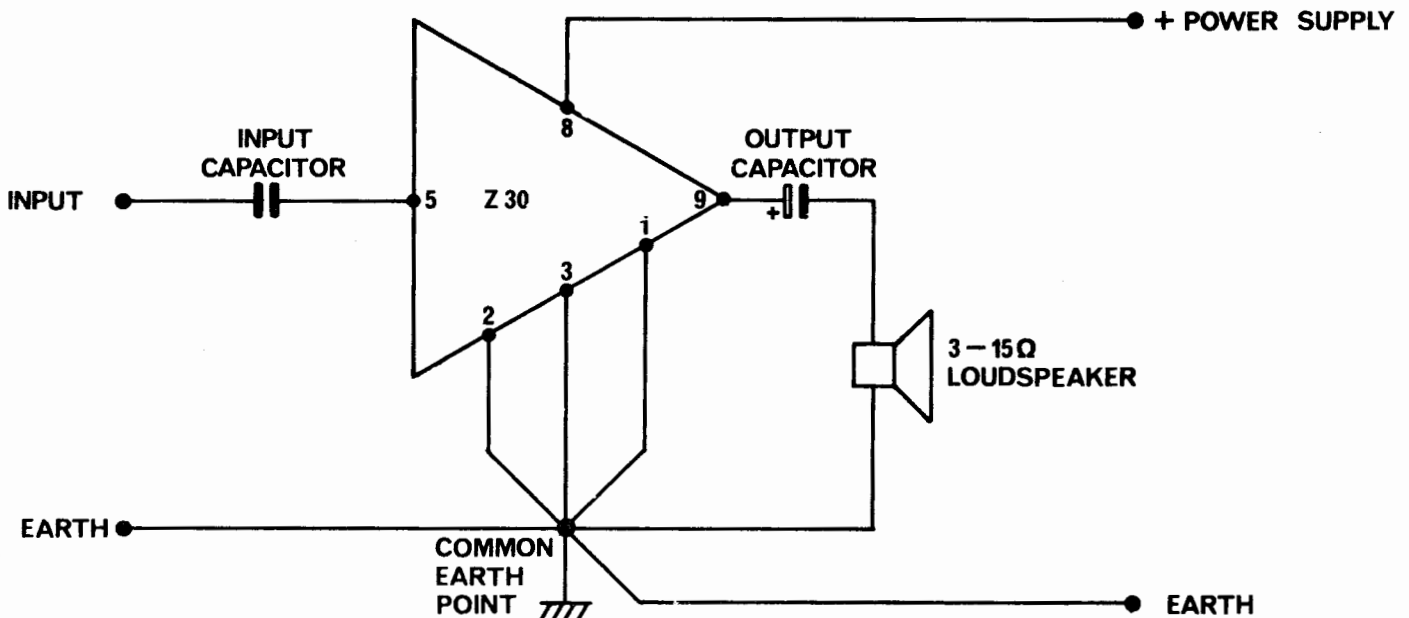

Fig. 4.11.1
If only one Z30 is used a short length of wire can be used to strap directly together terminals ①, ② and ③ and this 'point' now becomes the earth point. This is illustrated in fig. 4.11.1 which shows the basic connections necessary to the Z30 for normal use.